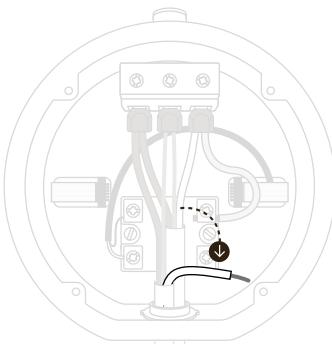

Figure 5.6
10) One conductor of the extension cable must now be connected to the bottom right terminal of the MODEL 1X controller. Bend this wire as shown in Figure 5.6 to align it with the terminal.